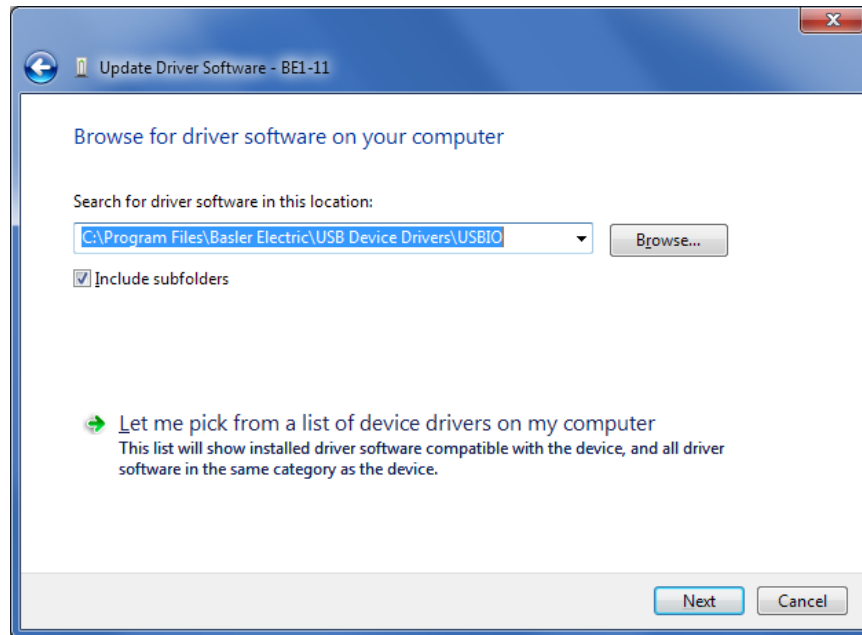

Figure 73-5. Update Driver Software - BE1-11
Step 5. Click Browse and navigate to C:\Program Files\Basler Electric\USB Device Drivers\USBIO. Click Next. See Figure 73-5.